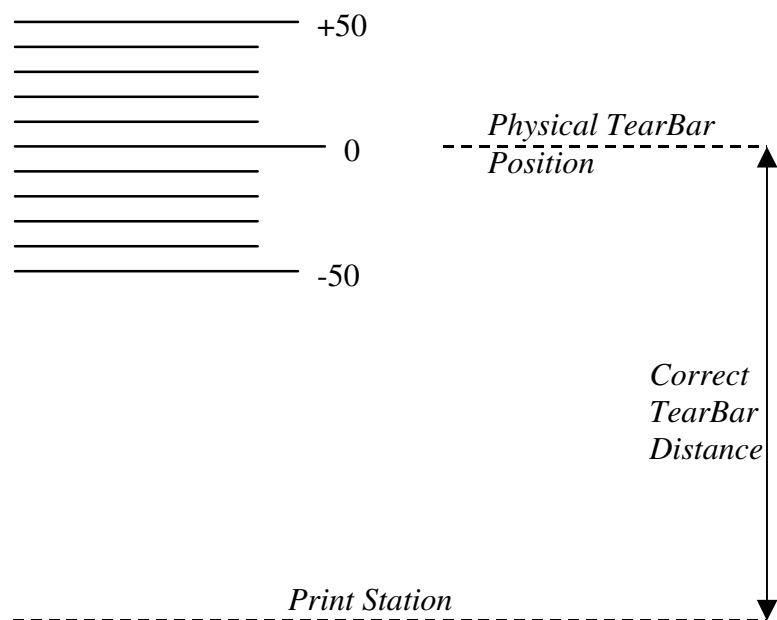

Figure 110. Correct Tear Bar Distance
10. Press **Enter** again to print a new scale. For correct tear bar distance, the zero should align with the tear bar. (See Figure 110.)